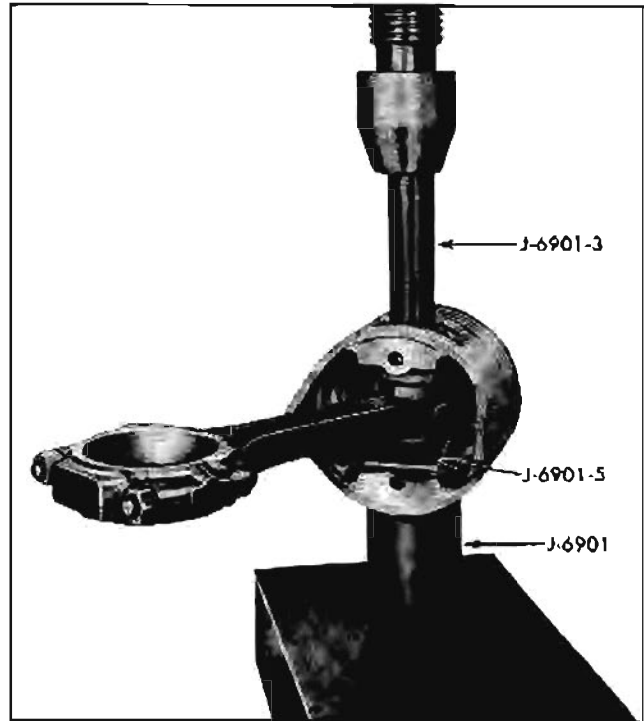

Fig. 6-55 Removal of Piston Pin
3. Using a suitable arbor press, place plunger tool J-6901 into piston pin bore and position on arbor press (Fig. 6-55).
4. Place tool J-6901-5 between connecting rod and piston boss (Fig. 6-55).
5. Place tool J-6901-3 (Fig. 6-55) in piston pin and press piston pin down until pin bottoms in tool J-6901.
7. Remove plunger and spring from tool J-6901 (Fig. 6-55).
9. Using tool J-6901-3 (Fig. 6-55) press pin out of piston and connecting rod.